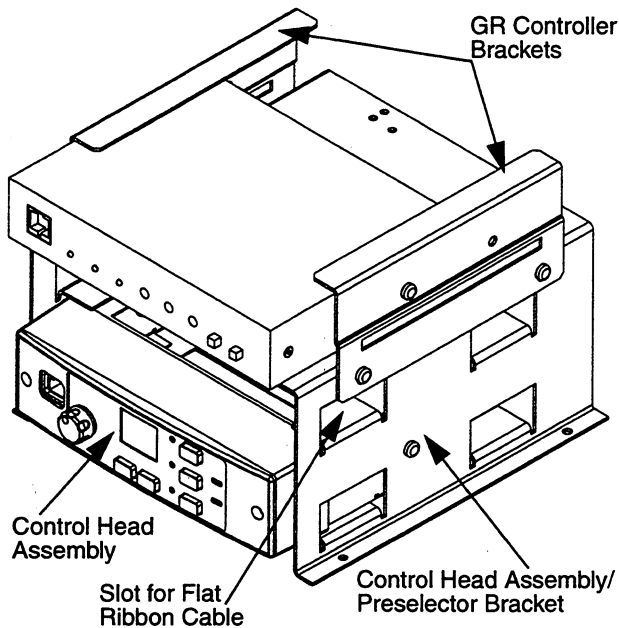

Figure 2-5. GR Series Controller Brackets
2. Route the two flat ribbon cables from the control head assembly through the upper right slot in the bracket. Refer to Figure 2-5 for reference to the upper right slot.
5. Locate the remaining two (2) M5 machine screws in kit HKN9015.
6. Secure the control head assembly to the bracket with the two (2) M5 machine screws using a T25 Torx driver. Tighten to 1.80 N-m (16 in.-lbs.) torque.
1. Locate two (2) of the GR Series controller mounting brackets in kit HLN9612.
2. Locate four (4) of the TT4.0 x 7.0 screws in kit HLN9612.
3. Attach the brackets to the sides of the control head assembly/preselector bracket with the four (4) TT4.0 using a T20 Torx driver. Tighten to 1.58 N-m (14 in.-lbs.) Torque. Refer to Figure 2-5 for proper orientation.